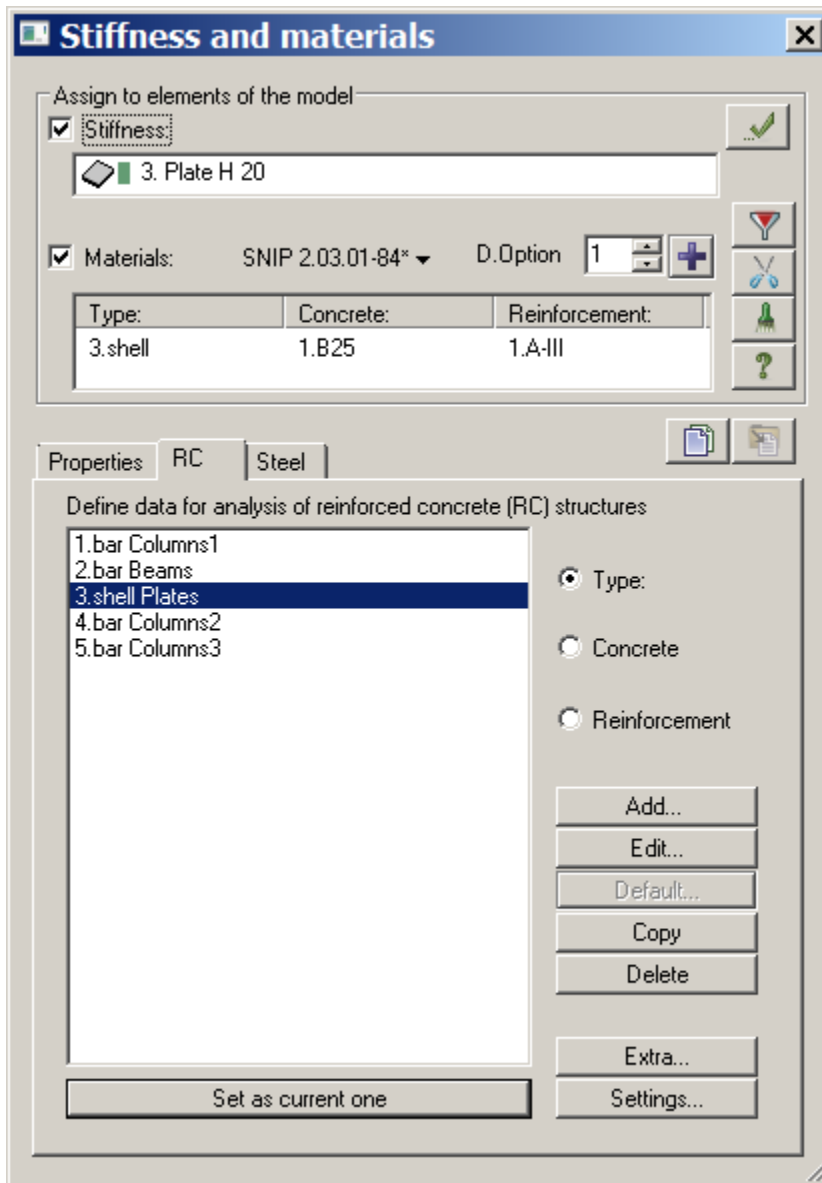

Figure 21.14 **Stiffness and materials** dialog box
- ⇒ In the **Stiffness and materials** dialog box (see Fig.21.14), in the **Define parameters for reinforced concrete (RC) structures** area, select the **Concrete** option.